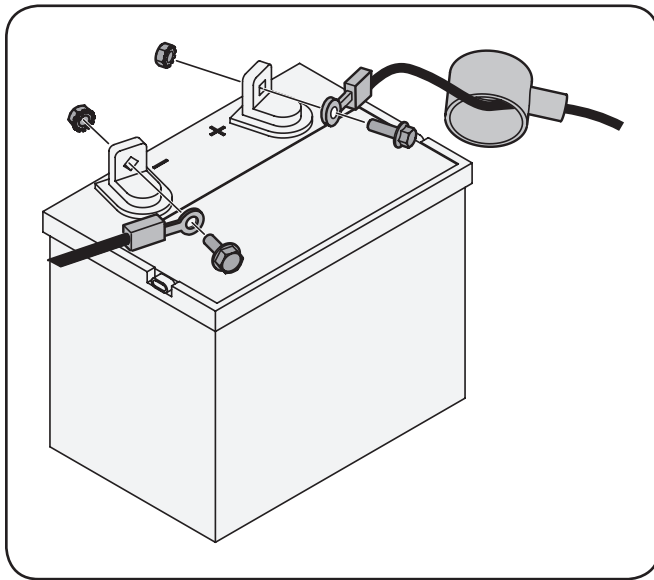

Figure 3-2
battery terminal with the bolt and hex nut. See Fig. 3-2.
2. Remove the plastic cover, if present, from the negative (-) battery terminal and attach the black cable to the negative (-) battery terminal with the bolt and hex nut. See Fig. 3-2.